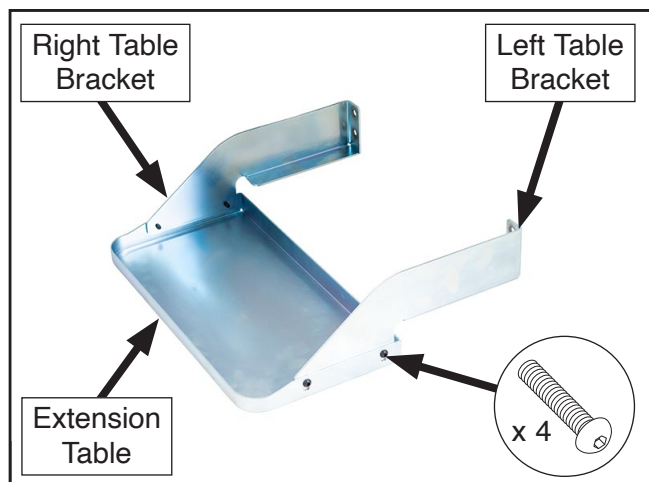

Figure 13. Table brackets attached to extension table.
- Place (1) extension table face down on flat, protected surface, then attach (1) left and (1) right table bracket using (4) M6-1 x 10 button head cap screws (see **Figure 13**).